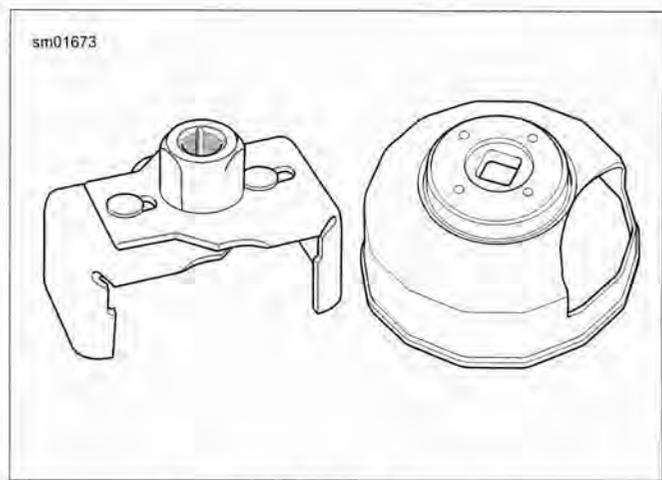
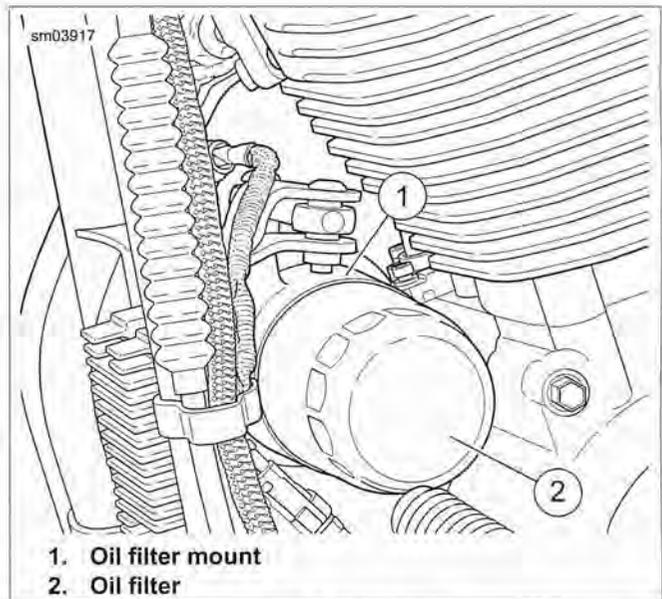

Figure 1-5. Oil Filter Wrenches
Figure 1-6. Oil Filter
- See Figure 1-5 and Figure 1-6. Remove oil filter using HARLEY-DAVIDSON OIL FILTER WRENCH (Part No. HD-42311) or HARLEY-DAVIDSON OIL FILTER WRENCH (Part No. HD-44067-A). Turn oil filter counter-clockwise to remove from filter mount.